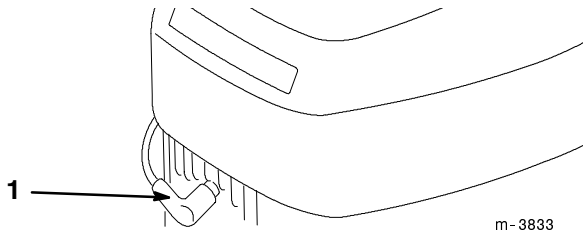

Figure 4
2. Disconnect the wire from the spark plug (Fig. 4) before installing or removing the cover plate.
6. Connect the wire to the spark plug (Fig. 4).